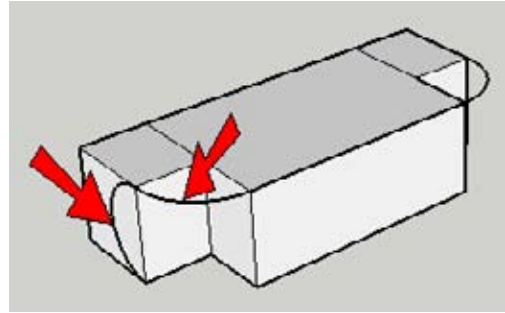

Figure 2-88
8. Draw the same two arcs on the other side (Figure 2-88). These five objects complete the 3D Follow Me path.